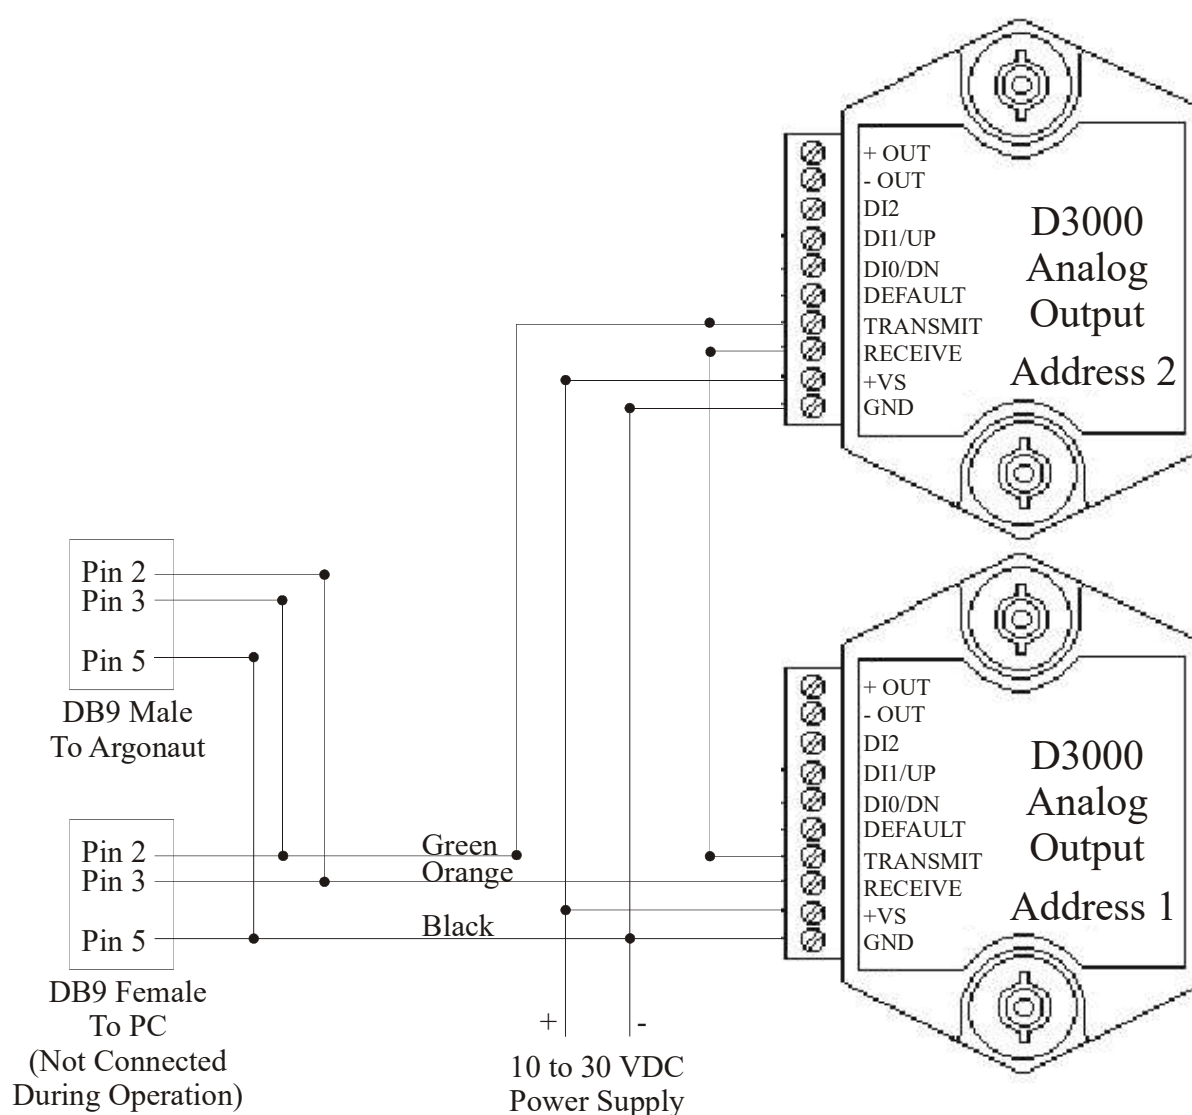

Figure F-3. AO Converter and Wiring: Multiple Converter Operation
When using more than one AO converter from a single system, the converters must be wired in series. This is shown in **Figure F-3**.
- When using two AO converters from a single system, the converters are connected in series as shown in Figure F-3.
- The power supply is connected to the AO converter as shown in Figure F- (single converter) and Figure F-3 (multiple converters).
3. Connect each AO converter to the adapter cable and power supply as shown in Figure F- (single converter) or Figure F-3 (multiple converters).